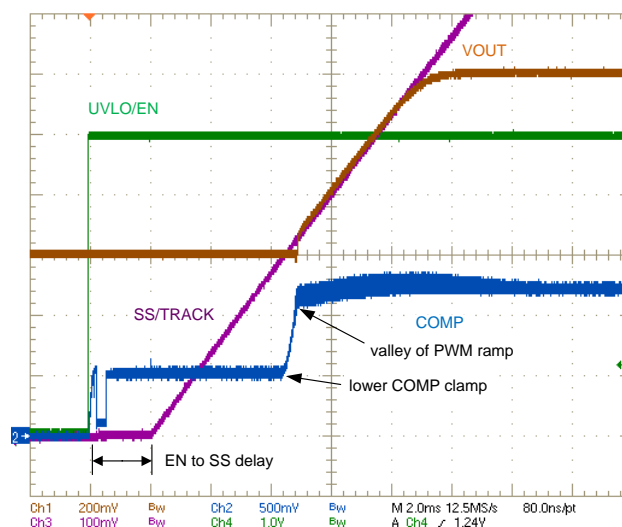

Figure 36. Typical Startup Waveforms With 0.6-V Prebiased Output, 1.2-V Nominal Output
The LM27403 does not allow switching until the SS/TRACK pin voltage has reached the feedback (FB) voltage level. Once this level is reached, the controller begins to regulate and switch synchronously, allowing a certain amount of negative current during PWM switching operation. Thereafter, the feedback voltage follows the soft-start voltage up to 0.6 V. This is illustrated in Figure 36 where nominal output voltage is 1.2 V and the output voltage waveform represents twice the FB level. The output is not pulled low during a prebiased startup condition. Note that if the output is prebiased to a higher voltage than the nominal level (as set by the feedback resistor divider), the LM27403 does not pull the output low, hence eliminating current flow through parasitic paths in the system.